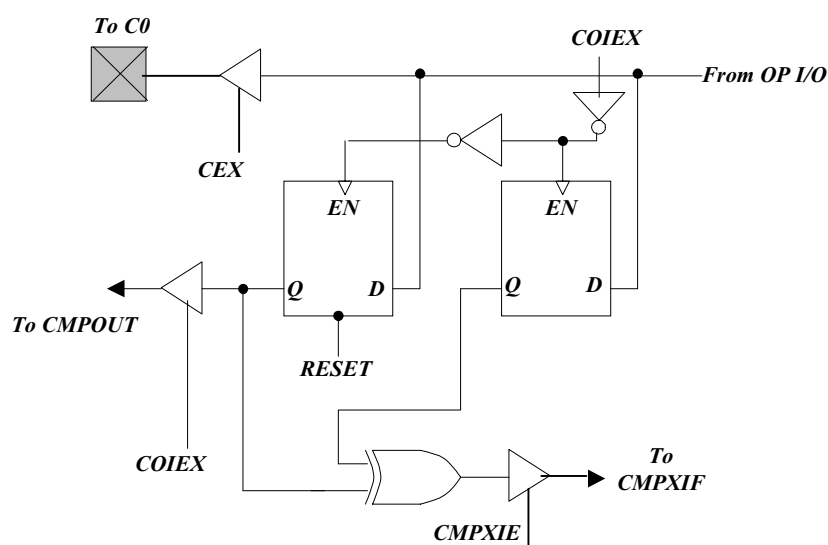

Fig. 17 The Output Configuration of a Comparator
- Fig. 17 shows the comparator output block diagram.